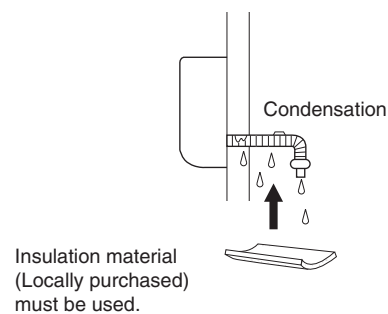

Fig. 1-179
- c) If the drain hose will run in the room, insulate the hose with insulation* so that chilled condensation will not damage furniture or floors. (Fig. 1-179)